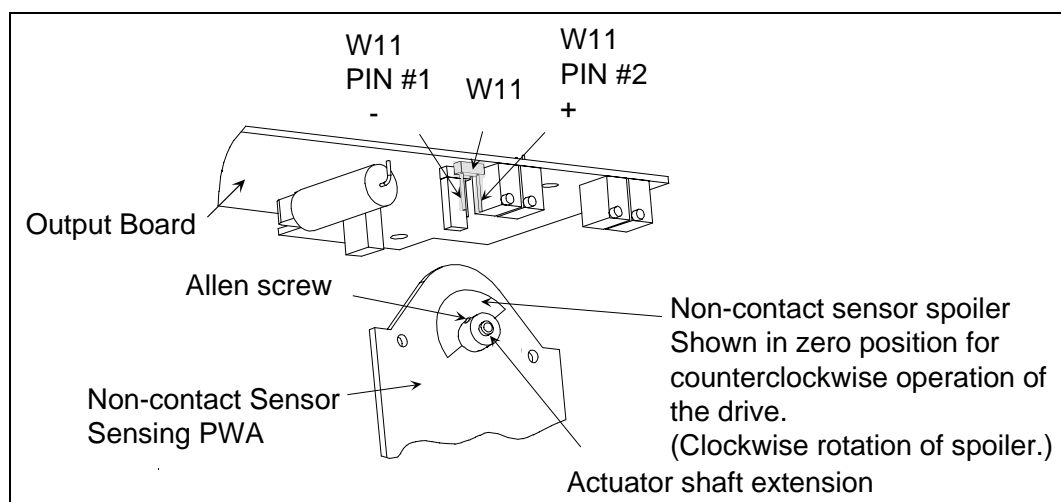

Figure 4-4 Location of NCS Assembly
1. Loosen the allen screw in the hub of the NCS spoiler just enough to be able to rotate the spoiler. (See Figure 4-4.)
2. Drive the actuator to the zero position (this refers to the position on the actuator scale for CCW rotation). This should be done manually with the hand wheel or manually with the auto/man electric switch. Next, rotate the NCS spoiler to its 0° position (it is shown in Figure 4-4 at a 45 degree angle or 10:00 o'clock zero position for CCW operating units). For CW operating units, the actuator is positioned at its 100 % position and the NCS spoiler is again at a 45 degree angle or 10:00 o'clock position. Tighten NCS spoiler set screw with allen wrench, holding spoilers in position. Spoilers need to be held in position both rotationally and longitudinally along the drive shaft extension (the gaps between each of the spoilers and the sensor circuit board should be approximately equal and any plastic or paper insulating material may be used to aid in this longitudinal positioning). Make sure that neither spoiler is touching the sensor electronics board when the adjustment is complete.